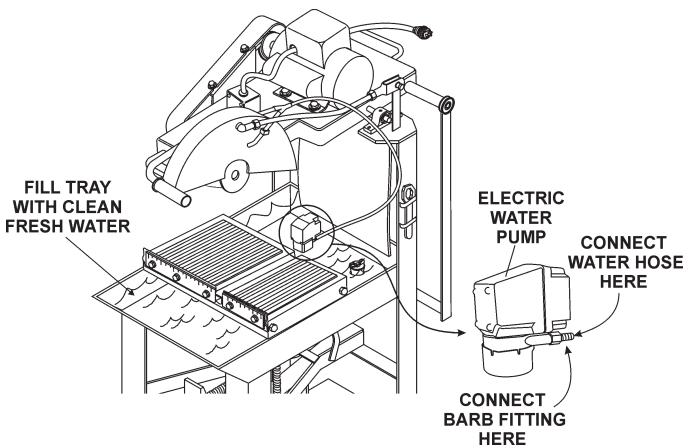

Figure 6. Water Tray/Water Pump
2. Connect the barb fitting to the water pump. Attach the clear plastic water hose (Figure 6) coming from the blade guard to the water pump.